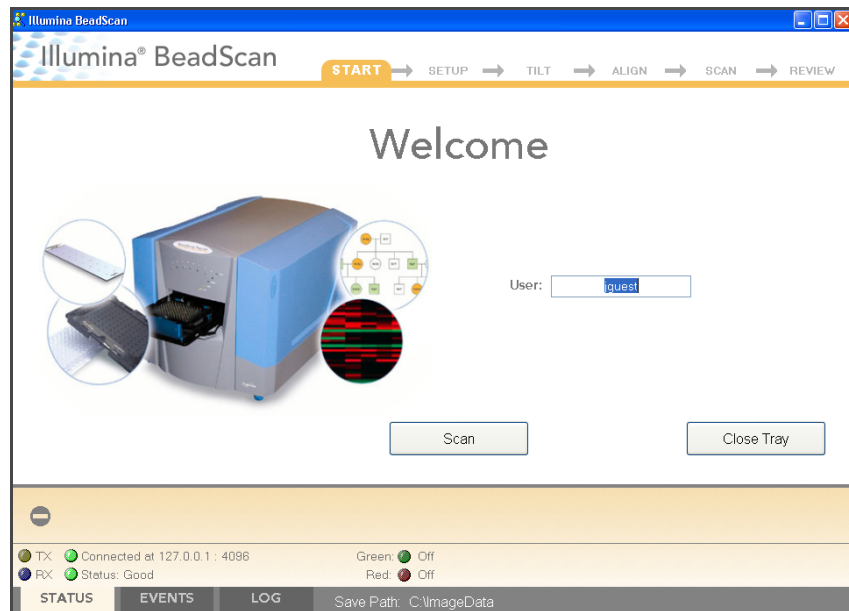

Figure 46 BeadScan Welcome Window
2. Log in and click **Scan** to display the Welcome window (Figure 46).